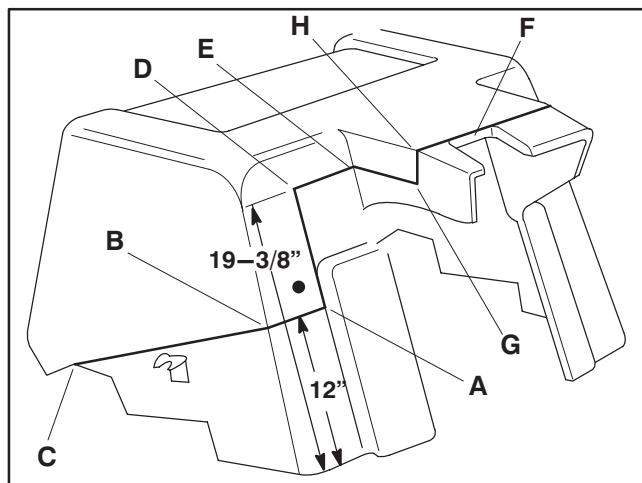

Figure 7
3. Modify the coring head cover (Fig. 7) using the following procedure: